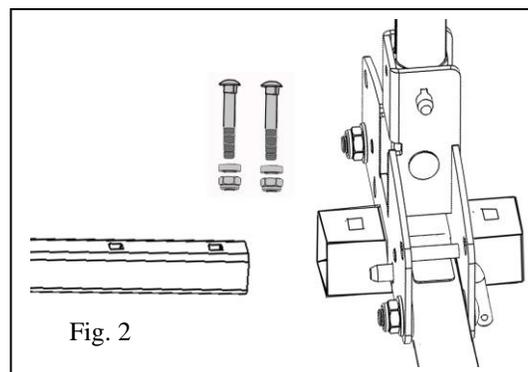

Fig. 2
1. Locate and prepare the following items for assembly: Main Frame (Q), Receiver Tube (B) and Hardware (N)
2. Slide the receiver tube into the short tube welded to the bottom of the main frame per Fig. 2.